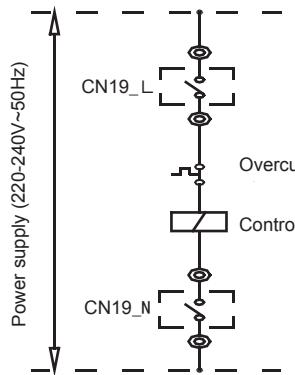

Fig.5-2
- Step 9. Connection of control wires of auxiliary electric heaters: the control wires of AC contactor of the auxiliary electric heater must pass the connection terminals CN19_L and CN19_N of the main unit, as shown in *Fig. 5-2*.